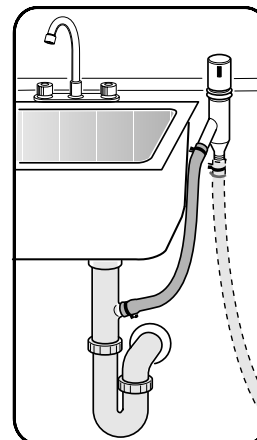

Figure 10
3. To the undersink dishwasher drain connection through an air gap, as shown in **Figure 10**.